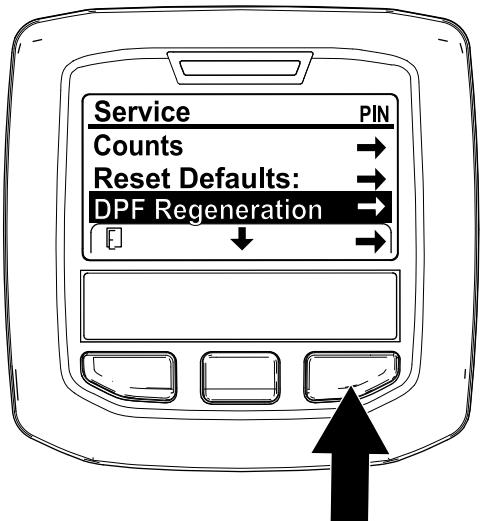

Figure 58
- Access the Service menu, press the center button to scroll down to the DPF REGENERATION option (Figure 58).
- Press the right button to select the DPF Regeneration entry (Figure 58).